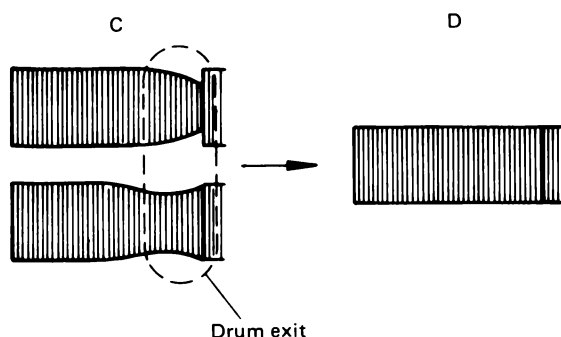

Fig. 2-29 Drum exit adjustment
- 2) In the same manner as for the drum entrance, turn the take-up guide roller to adjust the falling portion (drum exit) of the FM waveform. Incorrect examples are shown by C in Fig. 2-29, while D indicates the correct adjustment.